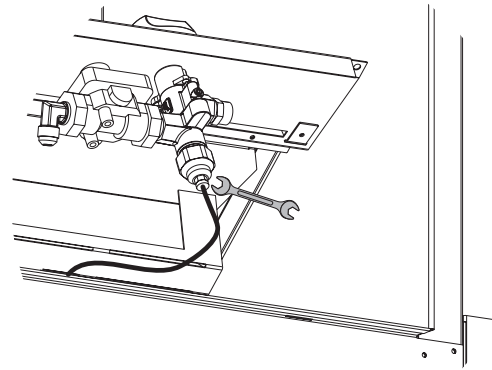

Figure 9
12. Use the 3/8" wrench to disconnect the thermocouple wire from the bottom of the gas valve. **See Figure 9.**